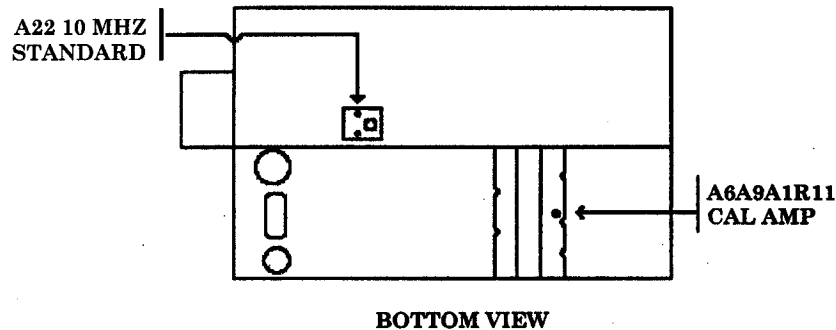

Figure 2. Calibrator amplitude adjustment.
- (1) Set **LINE** switch to **STANDBY**.
- (2) Position TI on its right side.
- (3) Remove TI bottom cover.
- (4) Set **LINE** switch to **ON**.
(5) Adjust A6A9A1R11 CAL AMP. (fig. 2) for a measuring receiver indication of  $-10 \pm 0.01$  dBm (R).